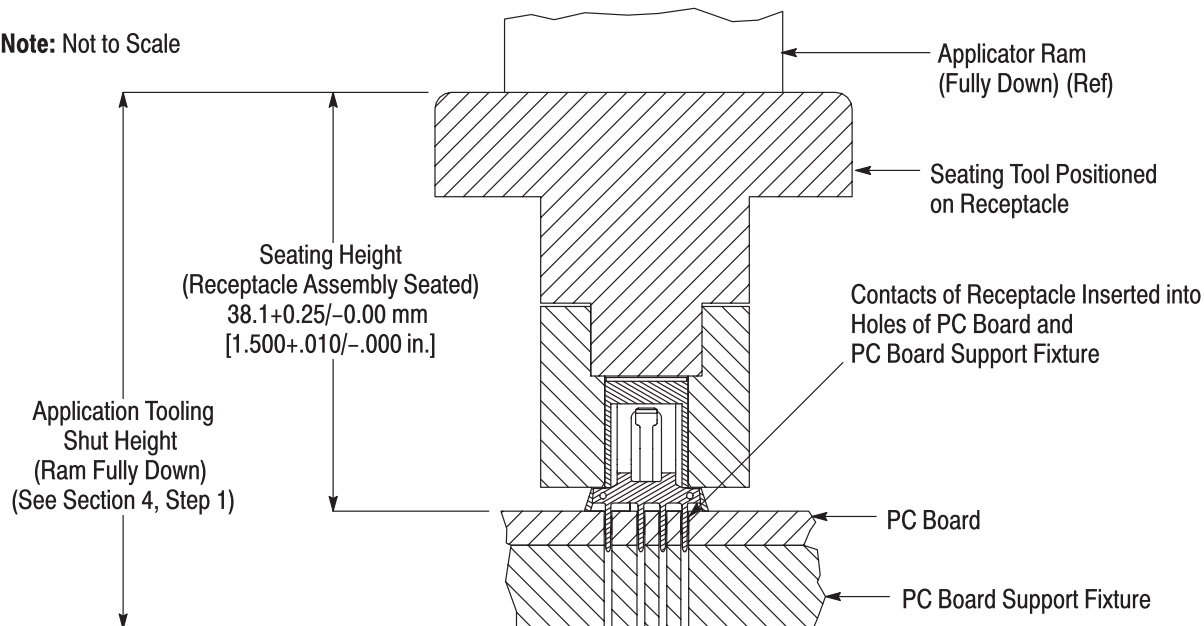

Figure 2
1. Set seating height to the dimension shown in Figure 2 (application tooling *shut height* will equal the seating height PLUS the combined thicknesses of the pc board and pc board support).